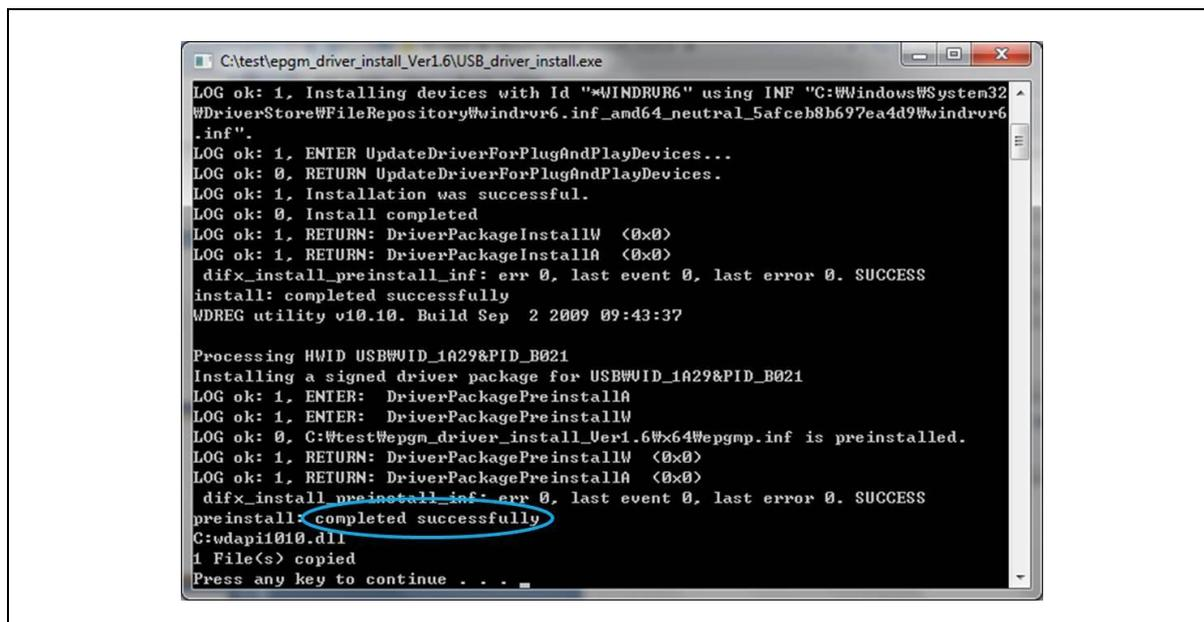

Figure 14. Driver Installation
- After executing the 'exe' file, the window shown in Figure 14 appears if the installation is successful. The installation takes one to three minutes depending on the PC environment.